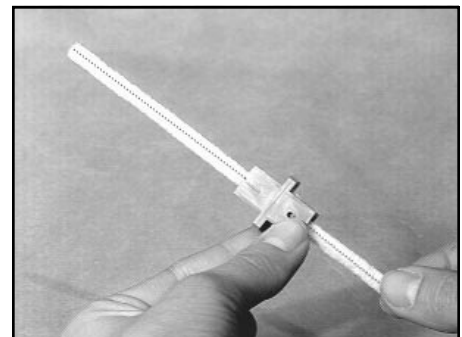

Fig. I3
- B. Insert an isopropyl alcohol dampened pipe cleaner into the coupling to remove any foreign particles (Fig. I3). Blow with compressed air.